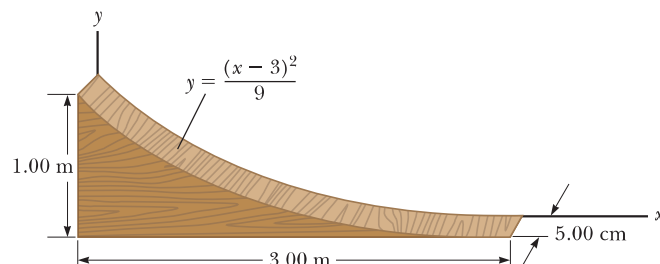

Figure P12.5
5. Pat builds a track for his model car out of solid wood as shown in Figure P12.5. The track is 5.00 cm wide, 1.00 m high, and 3.00 m long. The runway is cut so that it forms a parabola with the equation $y = (x - 3)^2/9$. Locate the horizontal coordinate of the center of gravity of this track.